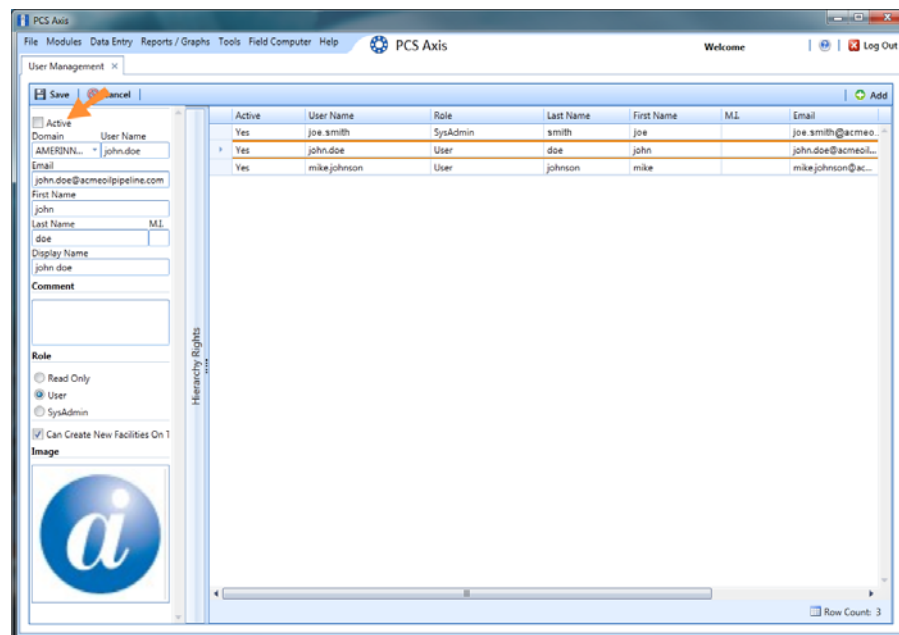

Figure 4-2. User Account Status
- 1 Click **Tools** > **User Management** (Figure 4-2).
The Active property setting changes from Yes to No indicating the user account is now inactive (Figure 4-2).